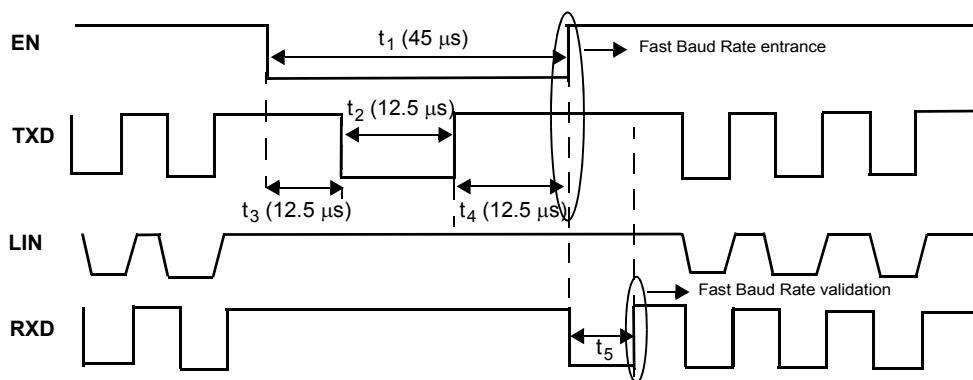

Figure 22. Fast Baud Rate Selection (Toggle Function)
31. See Figure 22 and 23
The Fast Baud Rate selection is reported by the RXD pin. Fast Baud Rate is activated by the toggle function (See Figure 22). At the end of the toggle function, just after EN rising edge, RXD pin is kept low for t_5 to flag the Fast Baud Rate entry (See Figure 22).
A combination of the logic levels on the EN and TXD pins allows the device to enter into the Fast Baud Rate mode of operation (see Figure 22).
The device enters into the Fast Baud Rate if the delay between Step 1 to Step 5 is 45 μ s maximum. The toggle function is described in Figures 22. Once in Fast Baud Rate, the same toggle function just described previously is used to bring the device back into Normal Baud Rate.
Fast Baud Rate selection is reported to the MCU by RXD pin. Once the device enters in this Fast Baud Rate, the RXD pin goes at low level for t_5 . When the device returns in Normal Baud Rate with the same toggle function, the RXD pin stays high. Both sequences are illustrated in Figures 22 and 23.